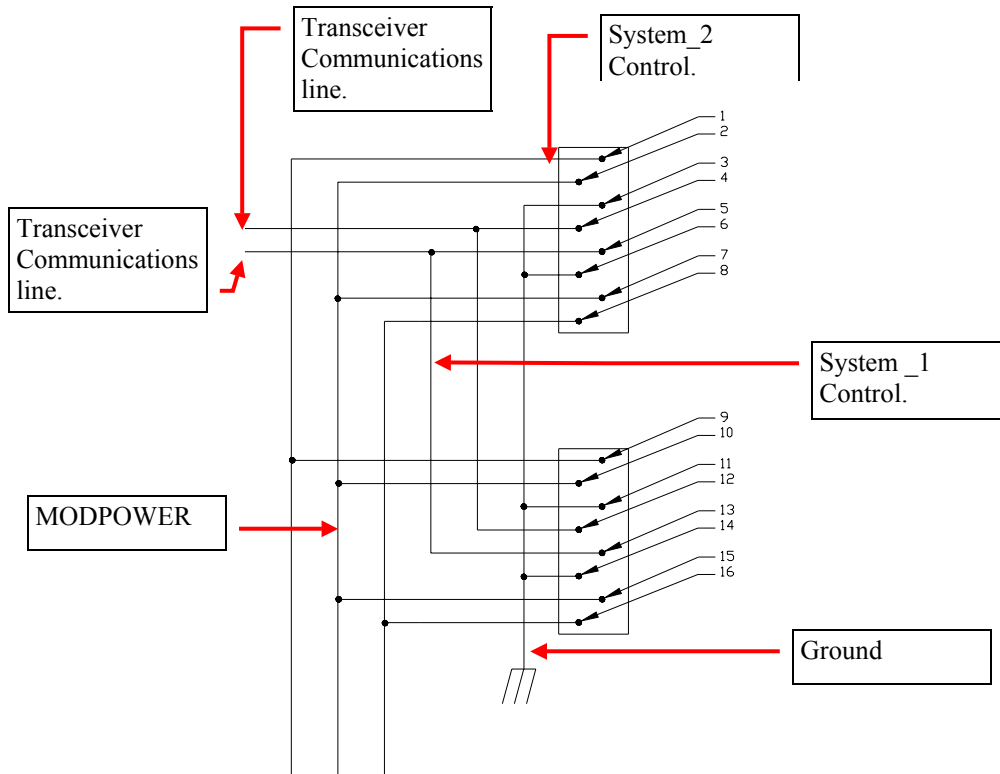

Figure 6.0 RJ45 Com. Connectors
4. Compare communication cables to figure 6.0 if cables are not the same, redo according to schematic.